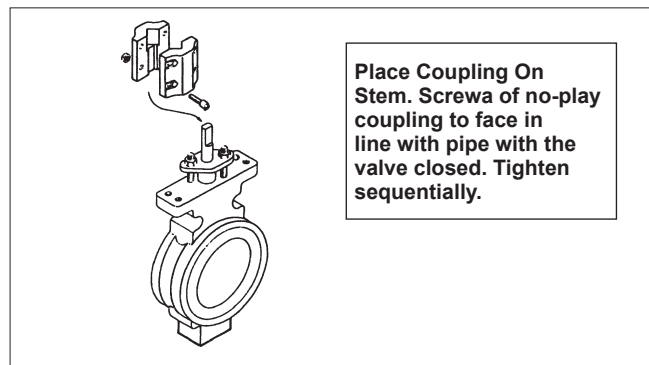

Figure 13.
3. Place the coupling onto the valve stem. If the valve has a two-piece "no-play" bolted coupling, assemble the coupling loosely on the valve stem. Use socket head cap screws and lock nuts. **(See Figure 13)**